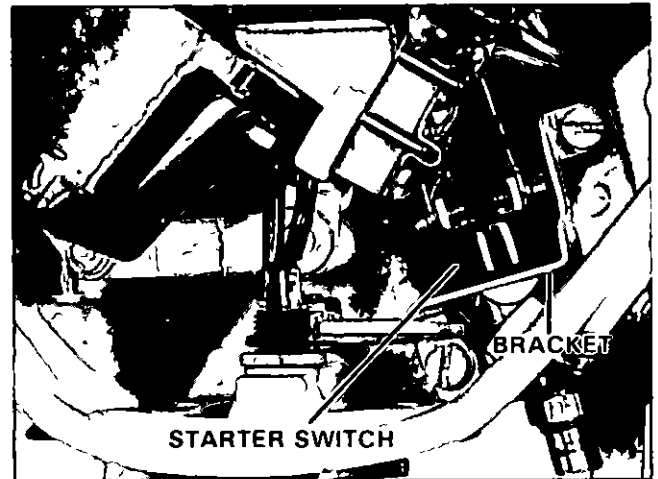

Figure 59 Connecting Leads to Starter Switch.
- 2 Connect red battery cable lead and red lead from circuit breaker to starboard terminal on starter switch. Connect red lead from neutral interlock switch to port terminal on starter switch. Figure 59